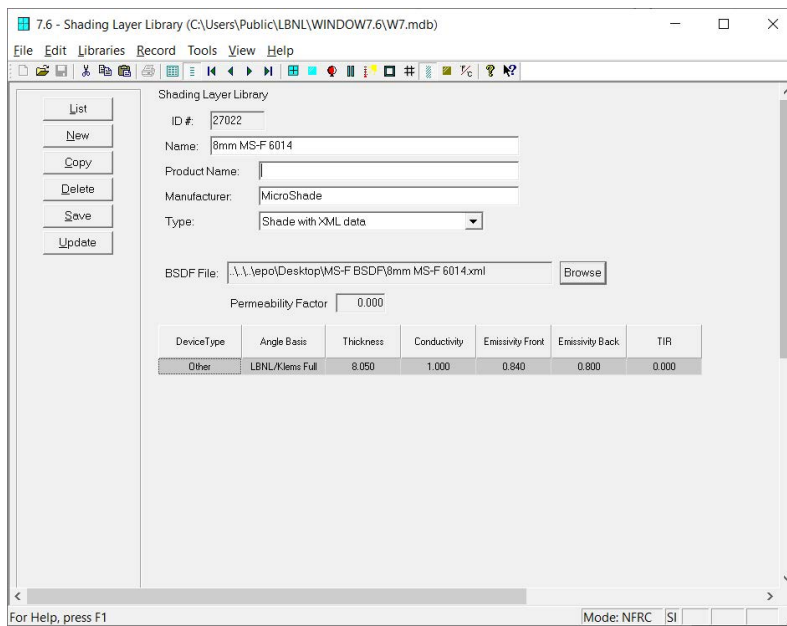

Figure 4: MicroShade® BSDL file has been imported.
5. Click "Browse" and choose the MicroShade® BSDF file you want to import. Values will now appear in the table. See figure 4